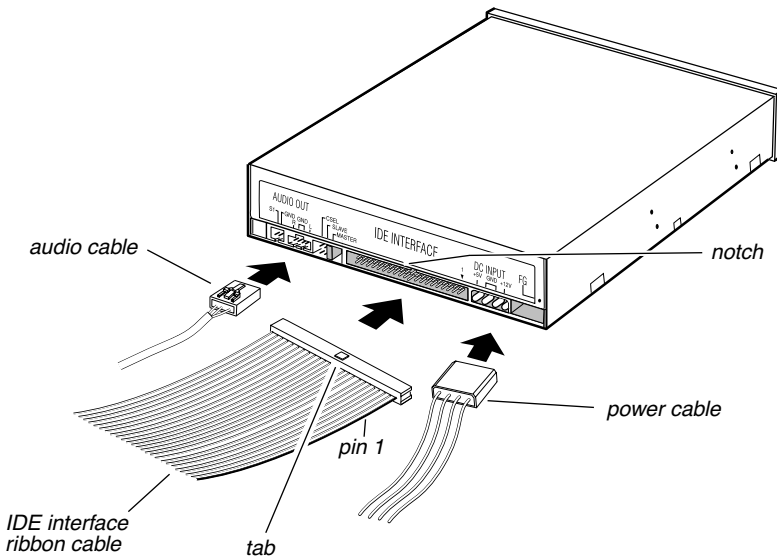

Figure 7. Cable Connections
- ⑩ **interface connector:** Use the included IDE interface ribbon cable to connect the CD-RW drive to an IDE interface in your computer. (For more information, see “Installing the CD-RW Drive” on page 8 and Figure 7 on page 9.)
- ⑪ **power connector:** Connect the power connector to the +5VDC and +12VDC power sources. The +5VDC terminal is on the left as you face the rear panel; the +12VDC terminal is on the right. The two center terminals are ground terminals. (For more information, see “Installing the CD-RW Drive” on page 8 and Figure 7 on page 9.)
- ⑫ **FG:** Frame ground. This is a ground connection for the CD-RW drive.